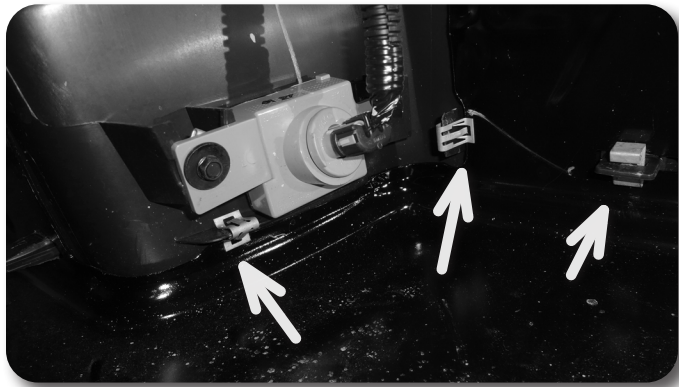

Figure 27
13. The license plate light and clips will also need to be removed. Figure 27